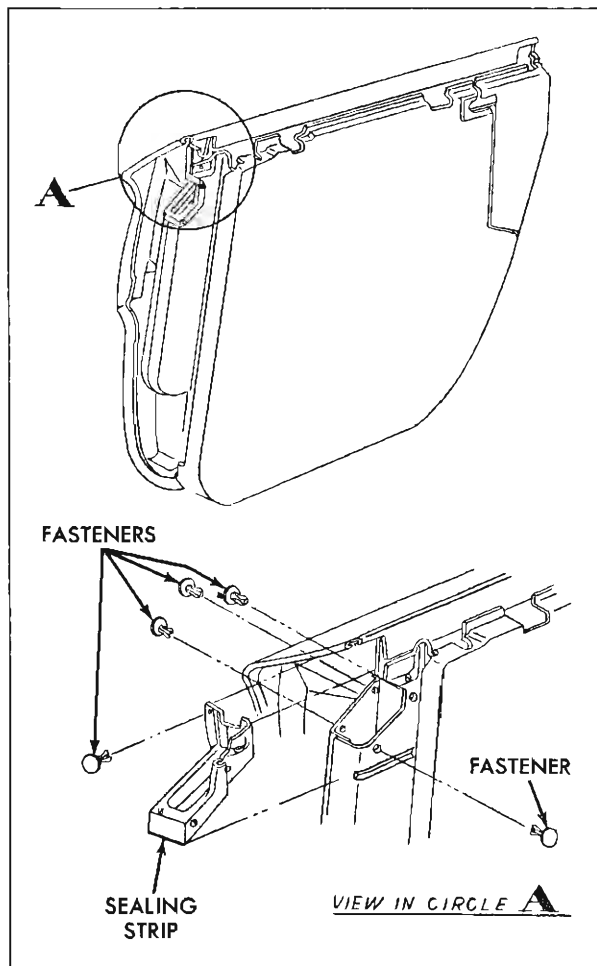

Fig. 3-1 Rear Door Hinge Pillar Sealing Strip
1. Remove snap fasteners securing sealing strip to hinge pillar facing of rear door and remove strip (Fig. 3-1).